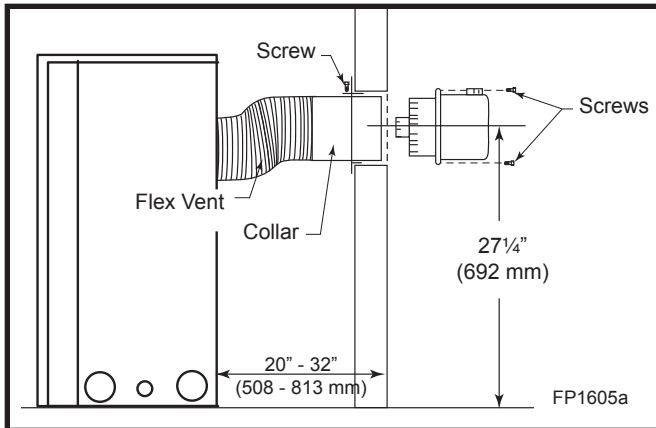

Fig. 20 The centerline of the termination must be 27¼" (692 mm) off the floor.
1. Determine where the termination is to be installed. (Fig. 20)